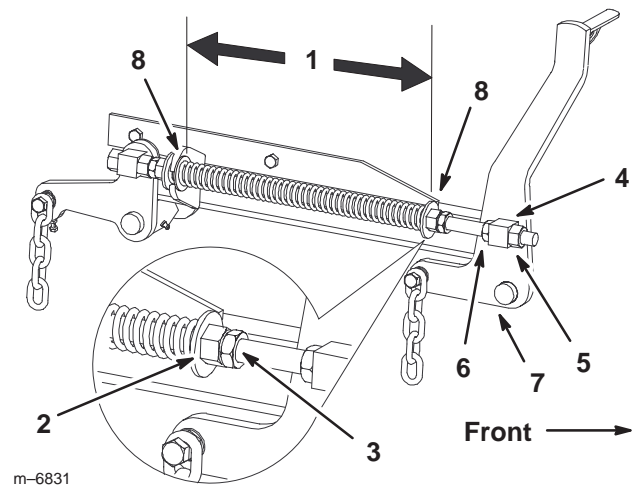

Figure 68
7. Loosen the front swivel jam nuts, at the front of the right and left swivels, approximately a 1/2 inch (13 mm) (Fig. 68).
8. Adjust the lift nuts on both the left and the right side of the machine to achieve **1/4 to 3/8 inch (6 to 10 mm) lower in front at A than in the rear at B** (Fig. 68).
2. Check the distance between the two large washers, it needs to be 11–1/2 inches (29.2 cm) (Fig. 68).
3. Adjust this distance, by loosening the spring jam nut and turning the nut in front of each spring (Fig. 68). Turning the nut clockwise will shorten the spring; counter-clockwise will lengthen the spring.
4. Lock the nut into position by tightening the spring jam nut (Fig. 68).